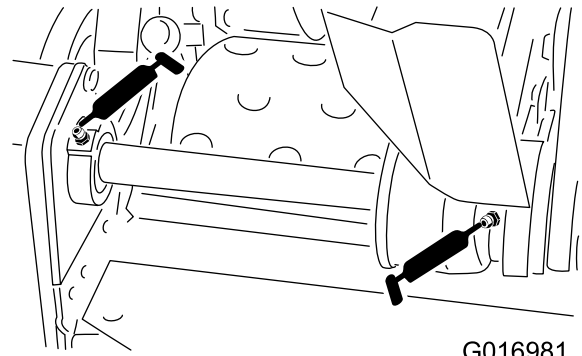

Figure 20
- 2 on the reel countershaft bearings (Figure 20)